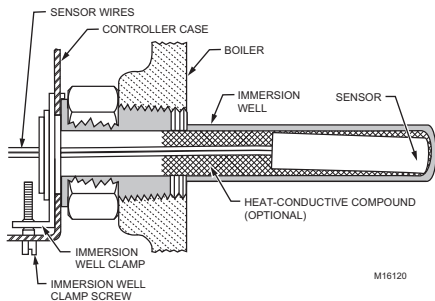

Fig. 2. Position of sensor in immersion well.
3. Insert the sensor into the well as shown in Fig. 2 or 3. (See "Replacement Sensor Installation" for details.)